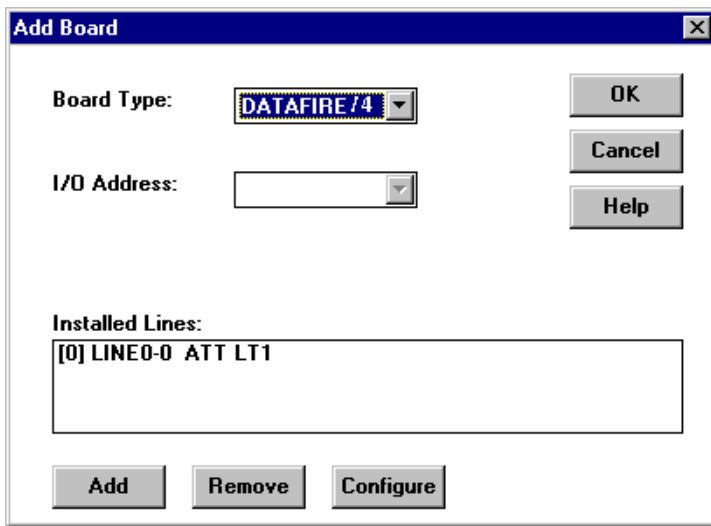

Figure 5-2. Add Board Window for DATAFIRE/4 product
In the **Configure Board** (or **Add Board**) window select the correct parameters for the board. See Figure 5-2.
- 3. Configure line parameters.** The **Installed Lines** box of the **Configure Board** (or **Add Board**) window will list one line, as shown in Figure 5-2. To configure this line, highlight it and press the **Configure** button at the bottom of the window. The **Configure Line** window will display.
4. **Add more lines if they are supported by your adapter.** If your Digi ISDN adapter supports more than one line, press the **Add** button at the bottom of the **Configure Board** window (see Figure 5-2). You will see a new line in the **Installed Lines** box.